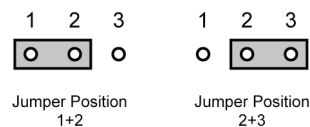

Figure 7. Jumper Pin Positions
Use **H1** to set the input termination for the ADA-8401-B. Refer to **Figure 7** for pin positions.
- **75 Ω termination** — For 75 Ω termination, set **H1** into position 1+2 as illustrated in **Figure 7**.
- **110 Ω termination** — For 110 Ω termination, set **H1** into position 2+3 as illustrated in **Figure 7**. Ross Video strongly recommends leaving **H1** in this setting.